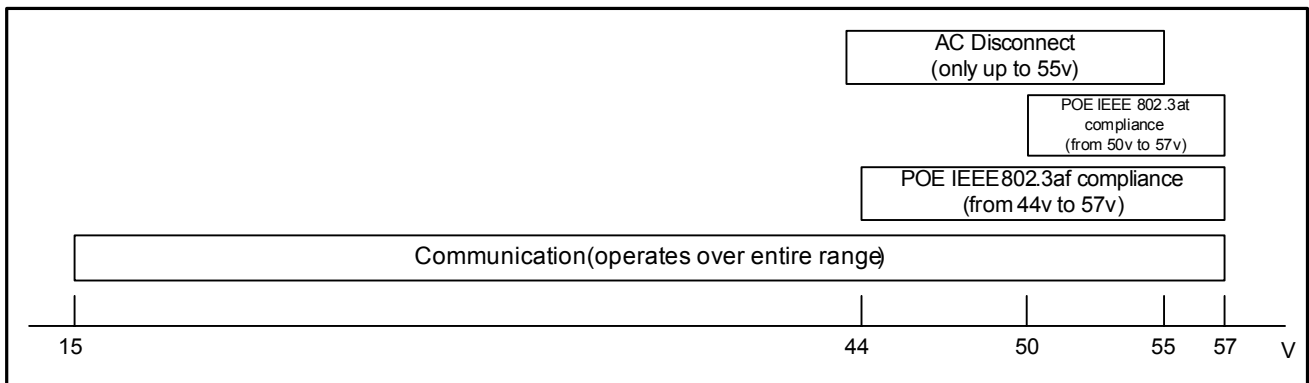

Figure 2: Operational Ranges
(1) Operating functions depend on the input voltage, as shown in Figure 2.